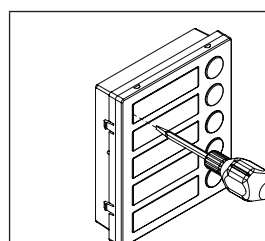
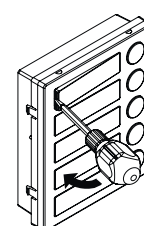

Fig. 4
Fig. 5
2. Fix the power supply to a DIN rail (**Fig. 4**) or directly to the wall using two expansion type screws (**Fig. 5**);
- Insert the screwdriver (flat side) into the card-holder hole as shown in **Fig. 4**;
- Move the screwdriver to the left as shown in **Fig. 5** to extract the card name holder;